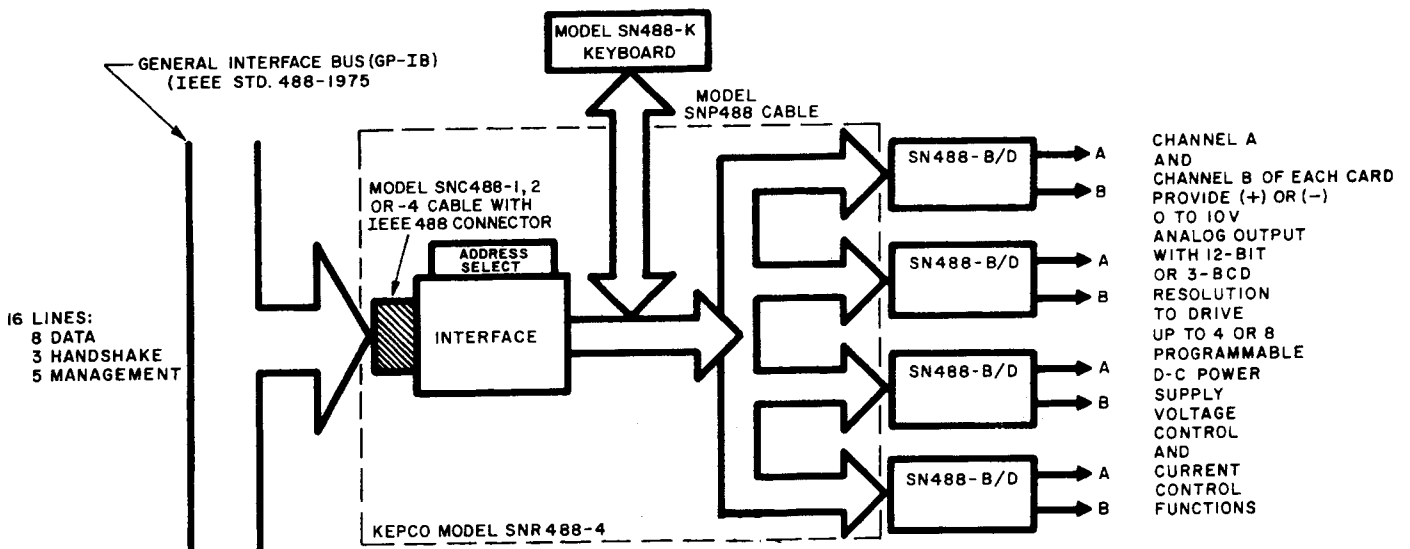

FIG. 1-1 BLOCK-DIAGRAM, KEPCO 488 PROGRAMMING SYSTEM (EXAMPLE)
1-5 The KEPCO SN 488 PROGRAMMING SYSTEM is designed to interface Kepco's programmable power supplies with the GENERAL PURPOSE INTERFACE BUS (GPIB), per IEEE STD. 488-1975. A typical Kepco SN 488 PROGRAMMING SYSTEM is shown in the form of a block diagram in FIG. 1-1. The system as shown, consists of the Model SNR 488-4 Rack Housing with interface card, four (4) plug-in Model SN 488-B or SN 488-D Programming Cards, a Model SN 488-K Keyboard with Model SNP 488 Cable, the bus connecting cable Model SNC 488 plus the programmable Kepco power supplies. Since each Model SN 488-B or SN 488-D Programming Card has two independent control channels, the system shown in FIG. 1-1 can program four (4) power supplies, providing independent control of each supply's voltage and current channel for example.